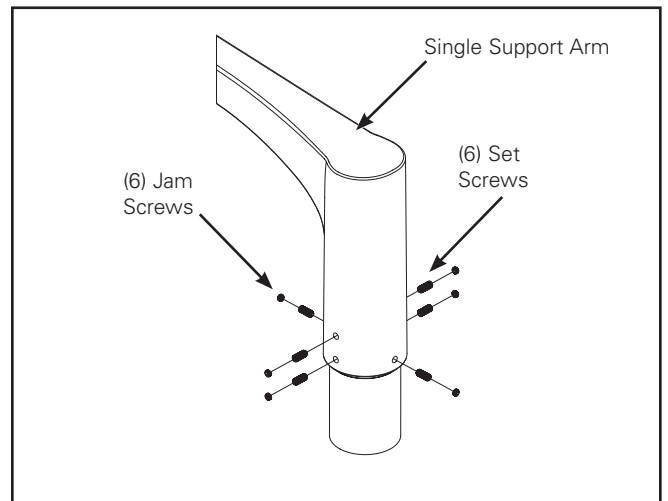

Figure 6.
7. Install six 3/8-24 x 7/8" set screws to hold arm to pole and tighten to 200 inch-lbs. (Figure 6.) Use 7/8" long set screws if tenon size is 2-3/8". Use 1/2" set screws if tenon size is 3".
8. Install six 3/8-24 x 3/16" jam screws and tighten to 175 inch-lbs. (Figure 6.)